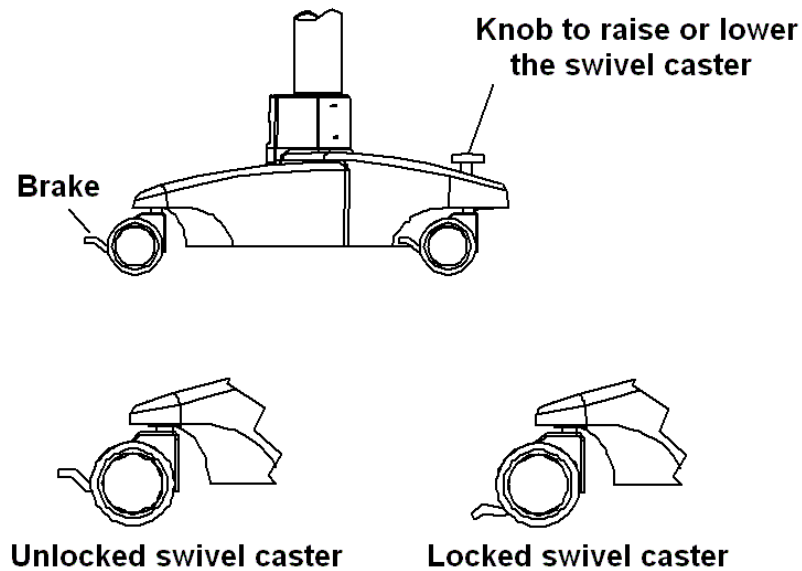
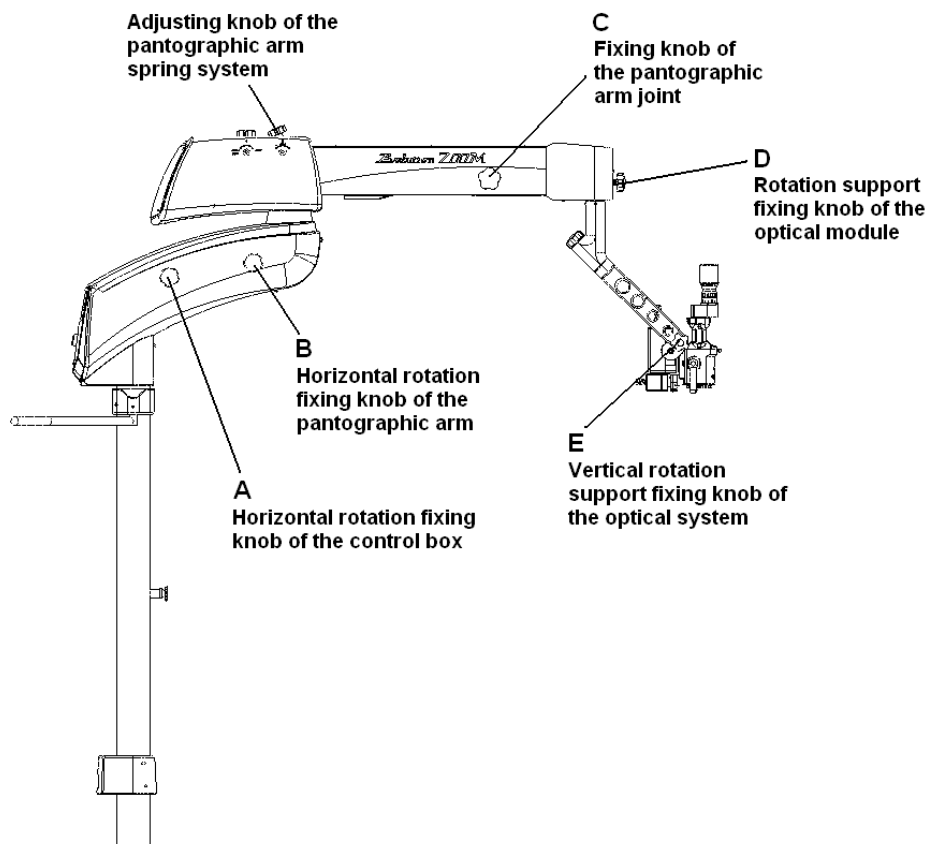

Figure 10: Swivel casters with brakes
Figure 11: Knob positions of the microscope
Before using the **Seiler Evolution Zoom Microscope**, one can move it from one place to another and change the position of the main modules to meet specific demands, since the followings instructions are considered (Figure 10 and Figure 11):
The level of the base can be set using the Knob to raise or down the swivel casters, so as to place them on a horizontal plane (Figure 10).
To adjusting the optical system to a specific position, make sure the swivel casters are properly locked (Figure 10). Then, loosen the knobs indicated and place the optics in the required position (Figure 11). After that, re-tighten the Knobs (do NOT over-tighten them).
To rotate the optical module vertically, release knob E. This may be slightly difficult, since the system is assembled with a preload to prevent the optical module from falling/rotating involuntarily (Figure 2 and Figure 11).
ATTENTION: A spring inside the pantographic arm ensures its smooth and precise movement. The spring's tension is NOT pre-set in the factory, because it must be released for transportation. When assembling the microscope, this spring must be set by its adjustment knob (Figure 11). Where accessories are added to the optical module, the weight to be balanced by the pantographic arm is increased, so the knob must be turned anti-clockwise. Become aware of eventual downward movement of the optical system, especially when adding accessories.
- Loosen the knob of the pantographic arm joint (Figure 11), then put the optical module in a distance from the working that are approximately the focal length of the objective lens in use. Re-tighten the knob to fix the pantographic arm.